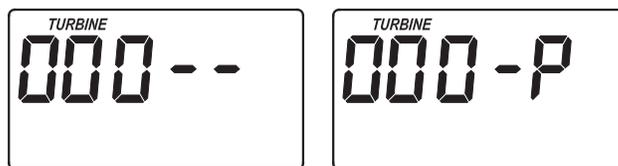

FIG. 31
1. Press and hold for 3 seconds the SELECT button, until one of the screens shown in Figure 31 is displayed. If the valve is in service, backwash or aspirate position (observe markings on the valve cam), the display should show "000 - -", meaning the position switch is open. When the valve is moving, the display should show "000 - P", meaning that the position switch is closed.